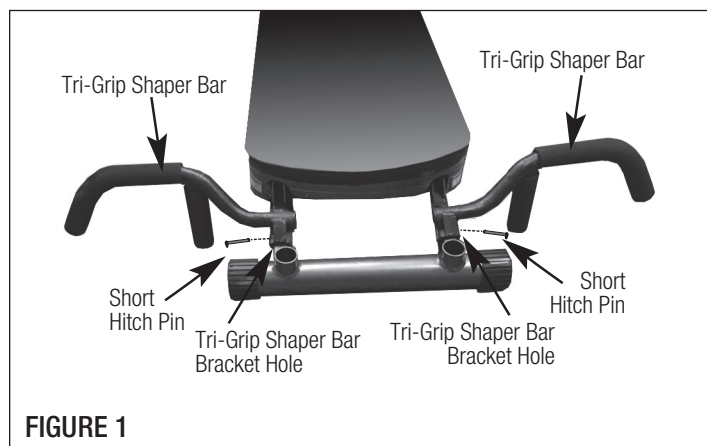

FIGURE 1
3. Insert the 2 Short Hitch Pins through the holes on the Tri-Grip Shaper Bar Brackets and the hole on the Rails as Shown in Figure 1. Make sure to securely attach each Tri-Grip Shaper Bar to each side of the frame before using.